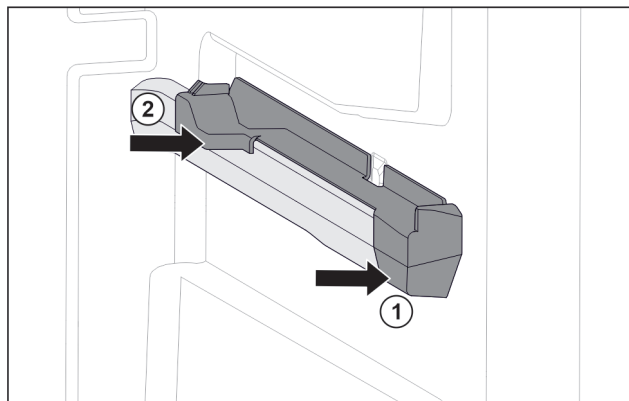

Fig. 97 Attachment on the right moulded rib
- ▶ Position attachment on moulded rib at the front. Fig. 97 (1)
- ▶ Press on attachment at the back. Fig. 97 (2)